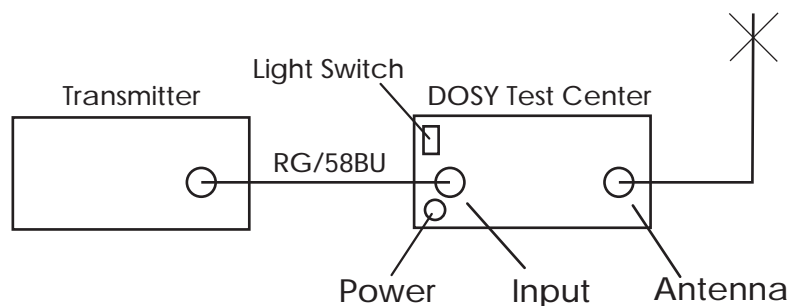

Figure 1
In order to operate the Frequency Counter (#4 Fig. 1), the unit must be plugged in. Once the unit has power, the Frequency Counter will operate automatically, whenever the microphone is keyed.
The TFC-3001 Test Center will indicate the power output (in watts) of your equipment at the point in the transmission line where you have installed the test center. To measure any power from 1 to 1000 watts, just set the RF Power Range Switch (#6 FIG. 1) to the appropriate range: 10, 100, 1000 watts. Key the transmitter and read the wattage on the corresponding scale of the RF Power Meter (#2 Fig. 1).
1. Operate SWR Set Control Switch (#7 Fig. 1) to Set Position.
2. Turn SWR RF Level Control (#5 Fig. 1) to Min.
3. Key transmitter and turn SWR RF Level Control clockwise (#5 Fig. 1) to give a full scale meter reading to Set Line on the SWR Meter (#1 Fig. 1).
1. Operate MOD SET Control Switch (#7 Fig. 1) to SET position.
2. Turn MOD RF Level Control (#8 Fig. 1) to Min.
3. Key transmitter and turn MOD RF Level Control (#8 Fig. 1) clockwise to give a full scale meter reading to Set on the Modulation Meter (#3 Fig. 1)
4. Operate MOD SET Control Switch (#8 Fig. 1) to MOD position. Key transmitter and talk or steadily whistle into the microphone. Read Modulation percentage directly on the modulation meter (#3 Fig. 1)